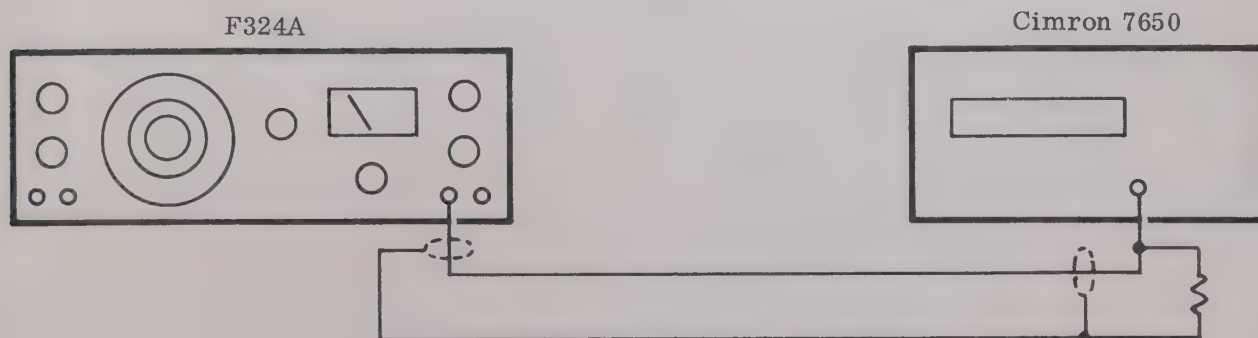

FIGURE 5-9
- a. Interconnect equipment as shown in Figure 5-9, observing signal and ground connections carefully. Do NOT terminate the output.
- a. Interconnect equipment as shown in Figure 5-9, observing signal and ground connections carefully. Terminate the output in a 50Ω load.